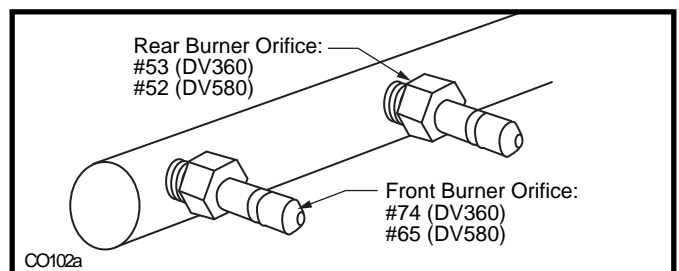

Fig. 58 Remove burner orifice, replace with LP orifice.
2. Remove burner orifice from manifold assembly using 3/8" wrench. (Fig. 58)